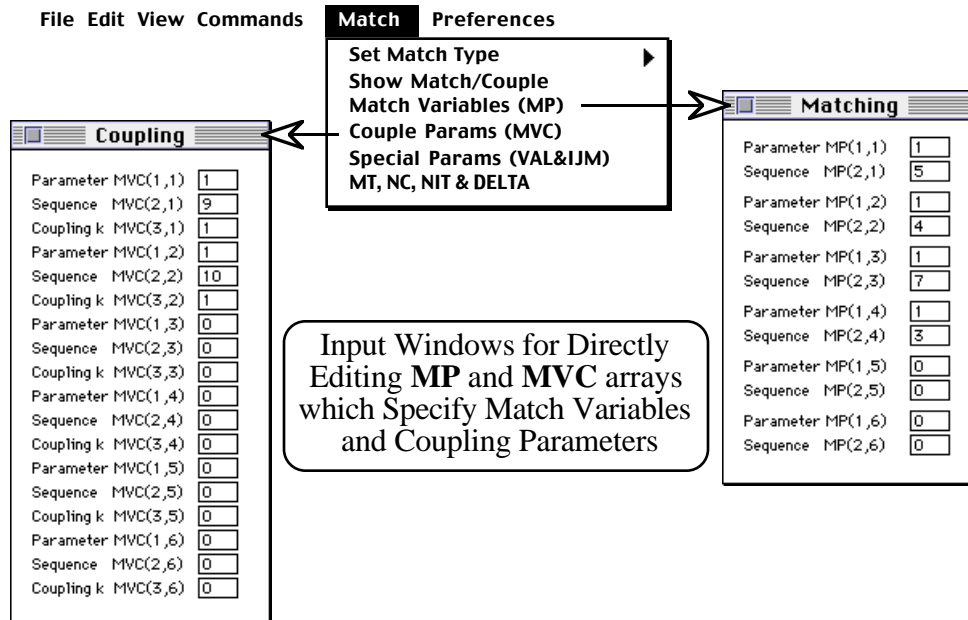

Figure 4-5. Input Windows for Directly Editing the TRACE 3-D Coupling and Matching Data.
The contents of the MP and MVC arrays may also be displayed and edited directly in the Coupling Window and the Matching Window. These windows are accessed with the Match Variables (MP) and the Couple Params (MVC) items in the Match menu as illustrated in Figure 4-5.
The matching and coupling arrays can be changed directly by entering new data in these windows. The *coupling k* values are given by the MVC(3,n) entries in the Coupling Window. The *coupling k* value, in the MVC array is always defaulted to +1, but may be changed to -1 in the Coupling Window (Figure 4-5).